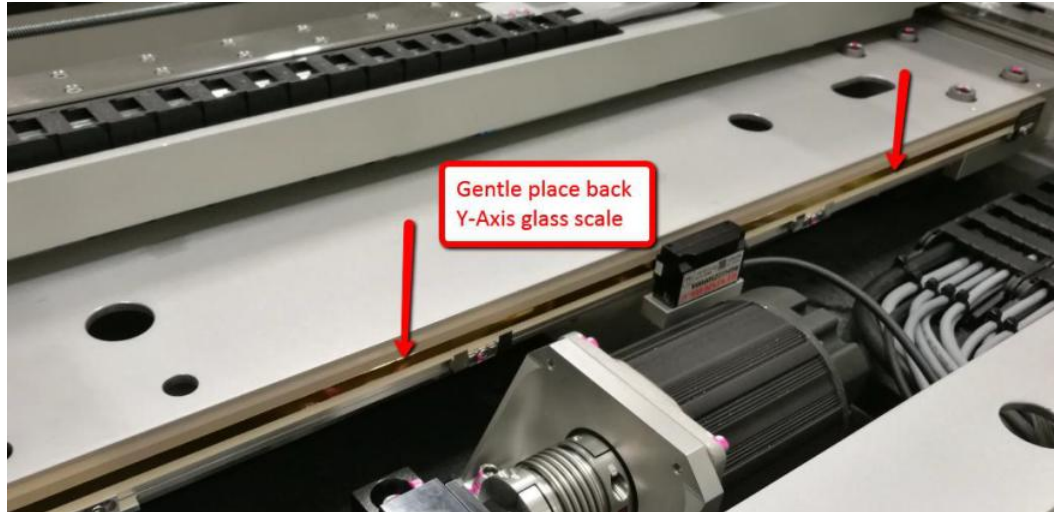

Figure 6 Glass scale replacement
1. Gentle assemble new Y-Axis glass scale as shown in Figure 6.